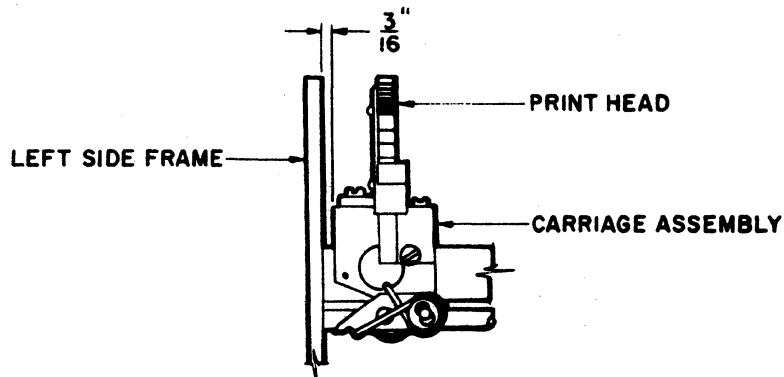

Figure NIP5. Printhead Home Position
- 5) Measure distance between printhead carriage and left side frame. Distance should be $3/16$ inch (see figure NIP5).
- 16) If adjustment is required, loosen one (center) slotted-head screw and one socket-head screw to permit adjustment of slew LED block. (See figure NIP5.) Turn slotted-head eccentric and adjust slew block position until requirement of step 15 is met. Tighten two screws.